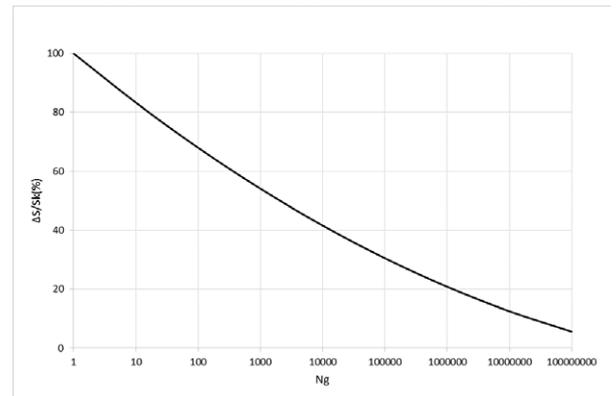
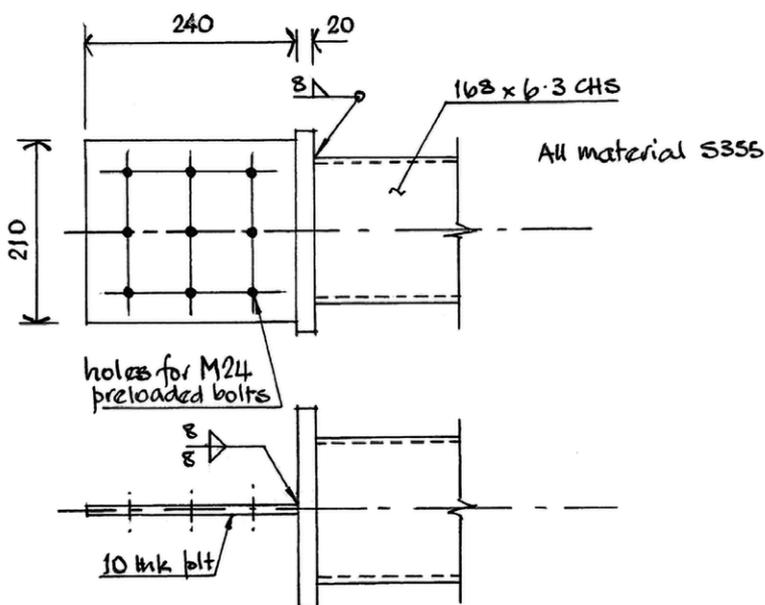

Figure 2: Number of gust loads  $N_g$  during a 50 year period
Figure 3: Bracing connection
BS EN 1991-1-4 Annex B includes a graph of the number of times in 50 years that a wind gust load equals or exceeds a given proportion of the once in 50 year gust load, expressed as a percentage (see Figure 2). This curve is introduced in Annex B for use in the procedure for determining the structural factor  $c_s c_d$  in wind load calculations. BS EN 1991-1-4 gives no guidance on the use of the curve for fatigue calculations due to gust loads.
The bracing member chosen is a 168 x 6.3 CHS in S355 material. A Tee or spade end connection is adopted and the double-sided **fillet weld** between the end plate on the tube and the projecting plate is designed in accordance with clause 7.6 of BS EN 1993-1-8 which determines the effective lengths of the weld. If the welds are sized according to the design load, as allowed in clause 7.3.1(6) of BS EN 1993-1-8, 8 mm leg fillet welds are adequate (weld throat = 5.7 mm). The connection detail is illustrated in Figure 3.
The factored stress range spectrum is found from Figure 2. Stress ranges  $\Delta \sigma_i$  corresponding to equal intervals of  $\log_{10} N_g$  along the horizontal axis are considered in calculating the fatigue damage. The values of  $N_g$  range between 1.0 at 100% of  $S_k$  multiplied by the partial factors and the value of  $N_g$  at the factored cut-off limit  $\Delta \sigma_L$ . 100 intervals are chosen to achieve good convergence. The number of cycles  $n_{Ei}$  of the occurrence each stress range is calculated from the spectrum and the number of cycles to failure  $N_{Ri}$  for the stress range is calculated from the fatigue strength curve (Figure 3). The ratio of  $n_{Ei}/N_{Ri}$  is summed to calculate the fatigue damage.
corresponds to  $S_k$  in the curve in Figure 2. The weld detail class is 40, described as "circular structural hollow section fillet welded end to end with an intermediate plate" in Table 8.6 of Part 1-9.
stress when factored corresponds to  $S_k$  in the curve in Figure 2. The weld detail class is 36\*, described as "root failure in partial penetration Tee-butt joints or fillet welded joint ..." in, Table 8.5 of Part 1-9.